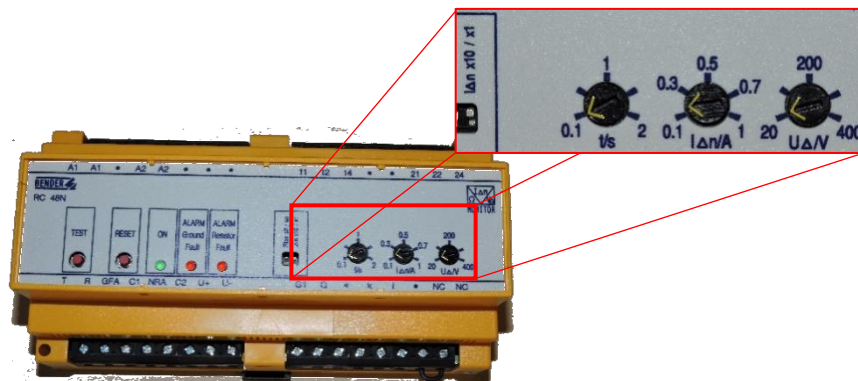

Figure 2: RC48N Ground-Fault & Neutral-Grounding-Resistor Monitor
2. Neutral voltage V_N is above the $U\Delta$ neutral-voltage setting AND neutral current is below the $I\Delta n$ setting. See Fig. 2.
- Rotate the I Δ n/V potentiometer to the 0.15 position, approximately 1/4 way between the 0.1 and 0.3 markings (see Fig. 2).